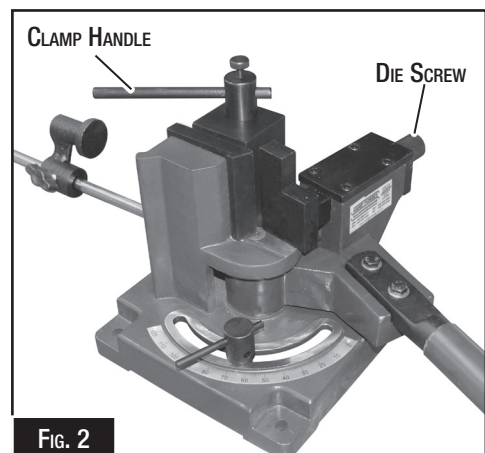

FIG. 2
2. Clamp the work piece in the bender using the clamp handle by moving the edge of the eccentric block close to the work-piece. (Fig. 2)
5. Adjust the die screw to increase or decrease the radius of the bend. (Fig. 2)